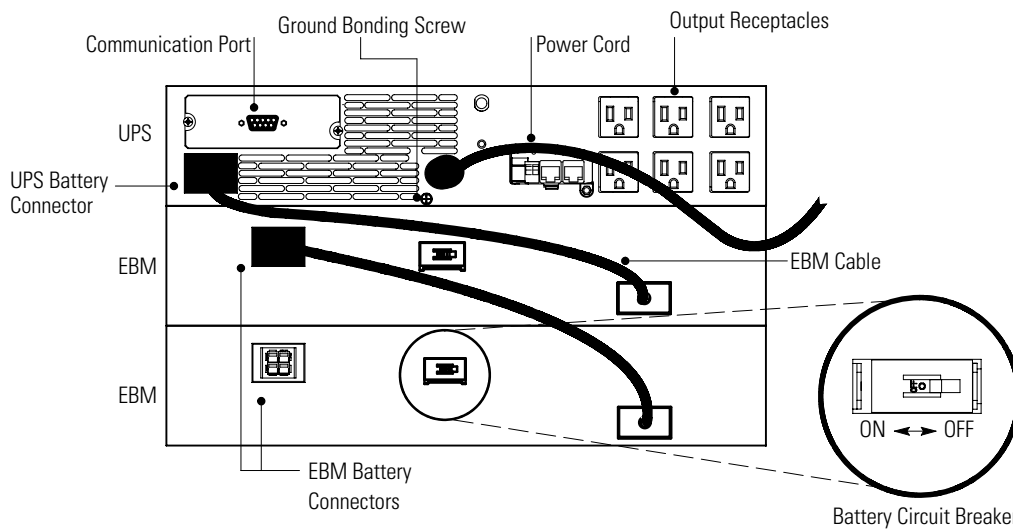

Figure 11. Typical UPS Installation with Two EBMs
Figure 11 shows a typical installation only. See “UPS Rear Panels” on page 26 for the rear panel of each model.
2. Verify that all battery circuit breakers are in the OFF (O) position (see Figure 11).
3. Plug the EBM cable(s) into the battery connector(s) as shown in Figure 11. Up to four EBM may be connected to the UPS.